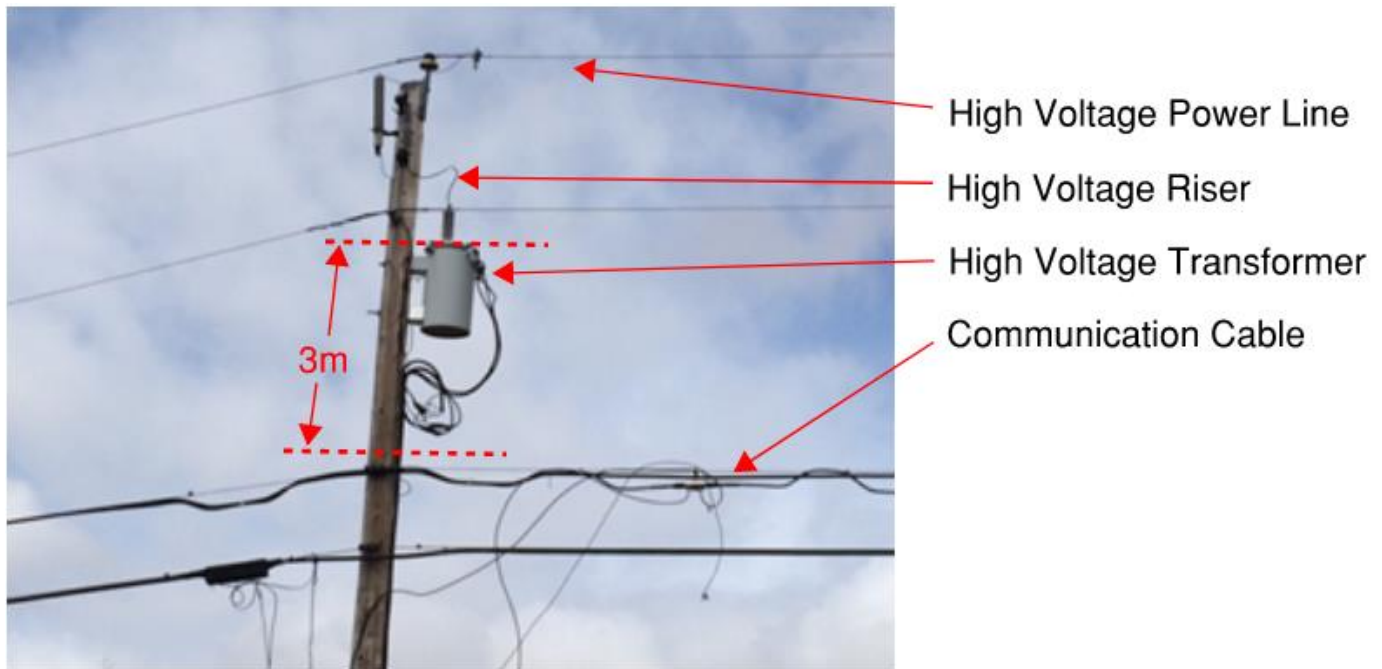

Figure 3 - Single Phase Power Line with Transformer
- 7.2.3. Figure 3 shows the addition of a high voltage transformer. The top of the transformer is energized at the same voltage as the conductor at the top of the pole. The 3 meter limit of approach distance is always taken from the lowest point on the structure that the high voltage can be contacted.
The lowest point in Figure 3 is the top of the transformer since it has a high voltage jumper attached to it from the high voltage power line above. The red dotted line again delineates the imaginary 3 meter limit of approach distance as measured from the top of the transformer. The telecommunication cable is very close to the 3 meter limits of approach distance.